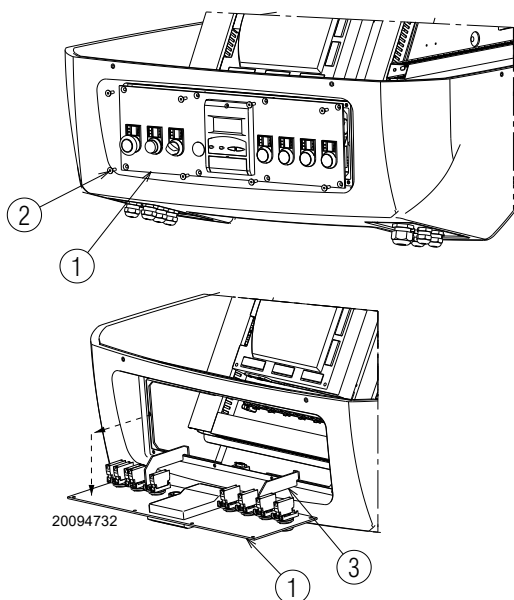

Fig. 36
- unscrew the screws 2)(Fig. 36) of the control panel 1);
- extract the control panel 1) and turn it 90°, hooking it with the brackets 3) in the profile of the electrical panel as shown in Fig. 36;